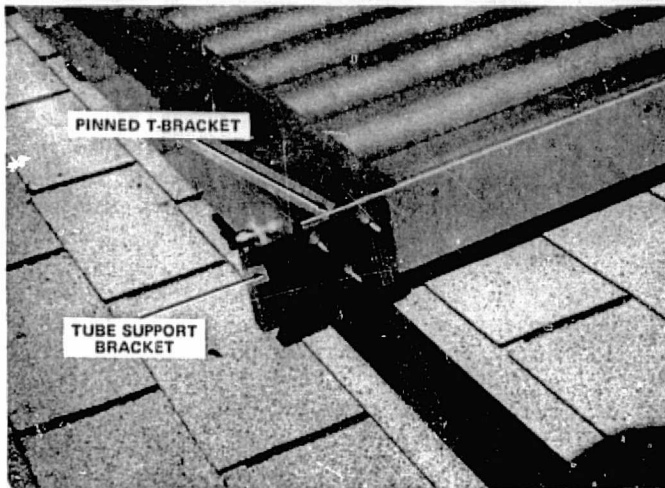

Figure 3-13. Internal Collectors are Fastened by Pinned T-Brackets
6. To mount the adjacent collector, place tube support brackets over the pins of the T-brackets, (Figure 3-13), at the header end of the collector and slide the next collector laterally until the pins are fully inserted and the collectors are snug one to the other.
4. To install subsequent internal collectors in the first row of the dual configuration, place one internal T-bracket (pinned), (Figure 3-13), into each UNISTRUT and insert into the corresponding holes in the collector frame. At the collector header end, a tube support bracket, (Figure 3-13), is inserted over the pins of the T-bracket at every other collector. Remove five of the six transition cover screws at the base of the collector and place the collectors on the UNISTRUT. With the brackets in place, slide the collector laterally until the pins are fully inserted and the collectors are snug one to the other.
4. Lift the header end of the first collector and align the outside mounting bracket hole with a hole in the collector. Temporarily insert one bolt (finger tight) through the assembly. Before inserting a bolt in the mounting bracket on the opposite side of the collector, align the adjacent collector, position a tube support bracket (similar to Figure 3-13) between the two collectors, and temporarily insert a bolt. This procedure is repeated in sequence until the header end of all the collectors in the row is attached.
5. Mount the second and subsequent collectors using the pinned internal U-brackets, similar to that shown in Figure 3-13. At the header edge, place header support brackets over the exposed pins of the U-bracket between adjacent collectors. After positioning each collector, tighten U-bolts.